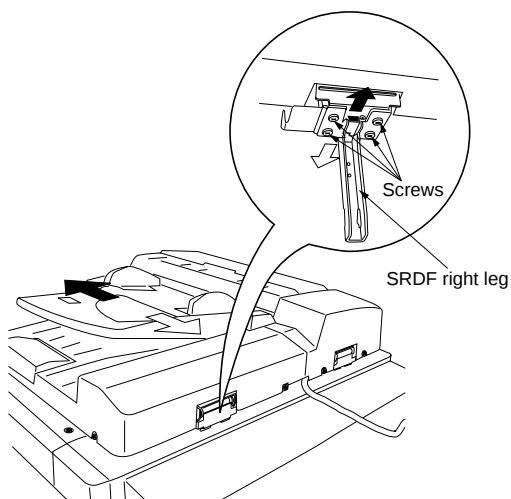

Figure 3-1-39
- Adjustment on a machine without an adjustable hinge (Figure 3-1-39):